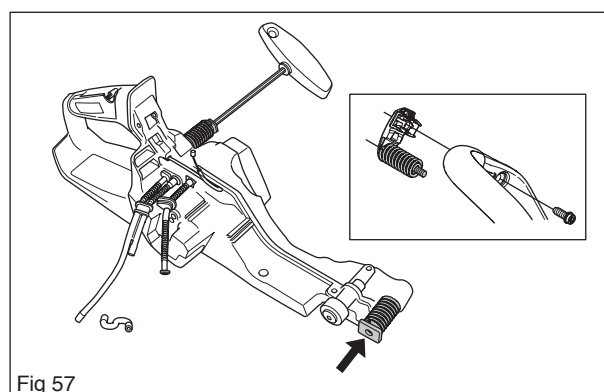

Fig 57
2. Dismantle the spring on the handle bar using a 4 mm Allen key (see figure 57).
3. Dismantle the springs on the tank unit using a 4 mm Allen key (tool 502 50 18-01). See figure 57.